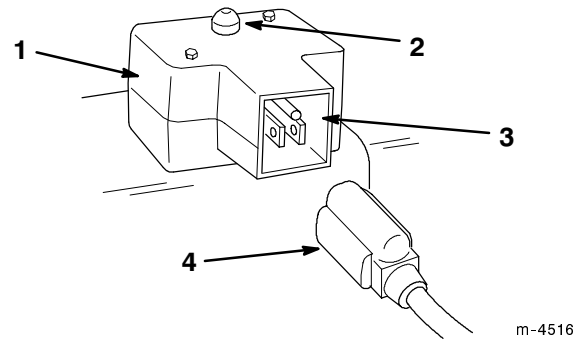

Figure 7
- **Electric Starter** (Fig. 7)—Push the starter button to start the engine.
- **Power Cord** (Fig. 7)—Connect the power cord to the electric starter and to an electrical outlet before starting the engine.
- A. Connect the power cord to the snowthrower (Fig. 7) and to a standard household power outlet.